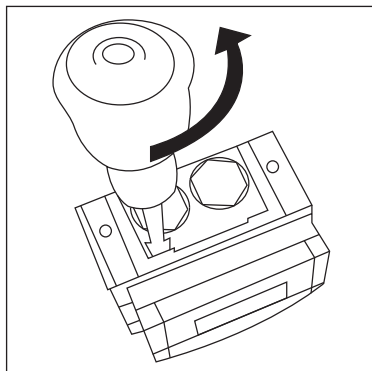

Fig 3 Cover removal
4. To remove the cover, undo and remove the four cover fixing screws. The four retaining clips also need to be released. To do this, place a flat bladed screwdriver into the slot between the cover and backbox and gently twist until the clip disengages (Fig 3). Repeat this for the three remaining clips and pull the cover away from the backbox.